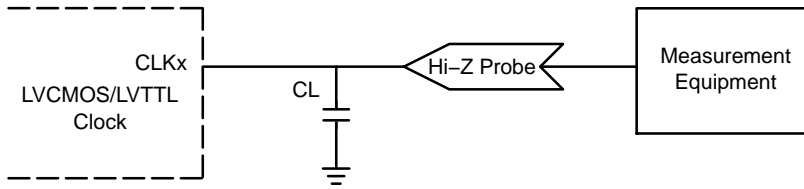

Figure 7. LVC MOS/LVTTL Parameter Measurement
5. Measurement taken with single ended clock outputs terminated with test load capacitance of 5 pF and 15 pF and differential clock terminated with test load of 2 pF. See Figures 7, 8 and 13. Specification for LVTTTL are valid for the  $V_{DD}$  3.3 V only.